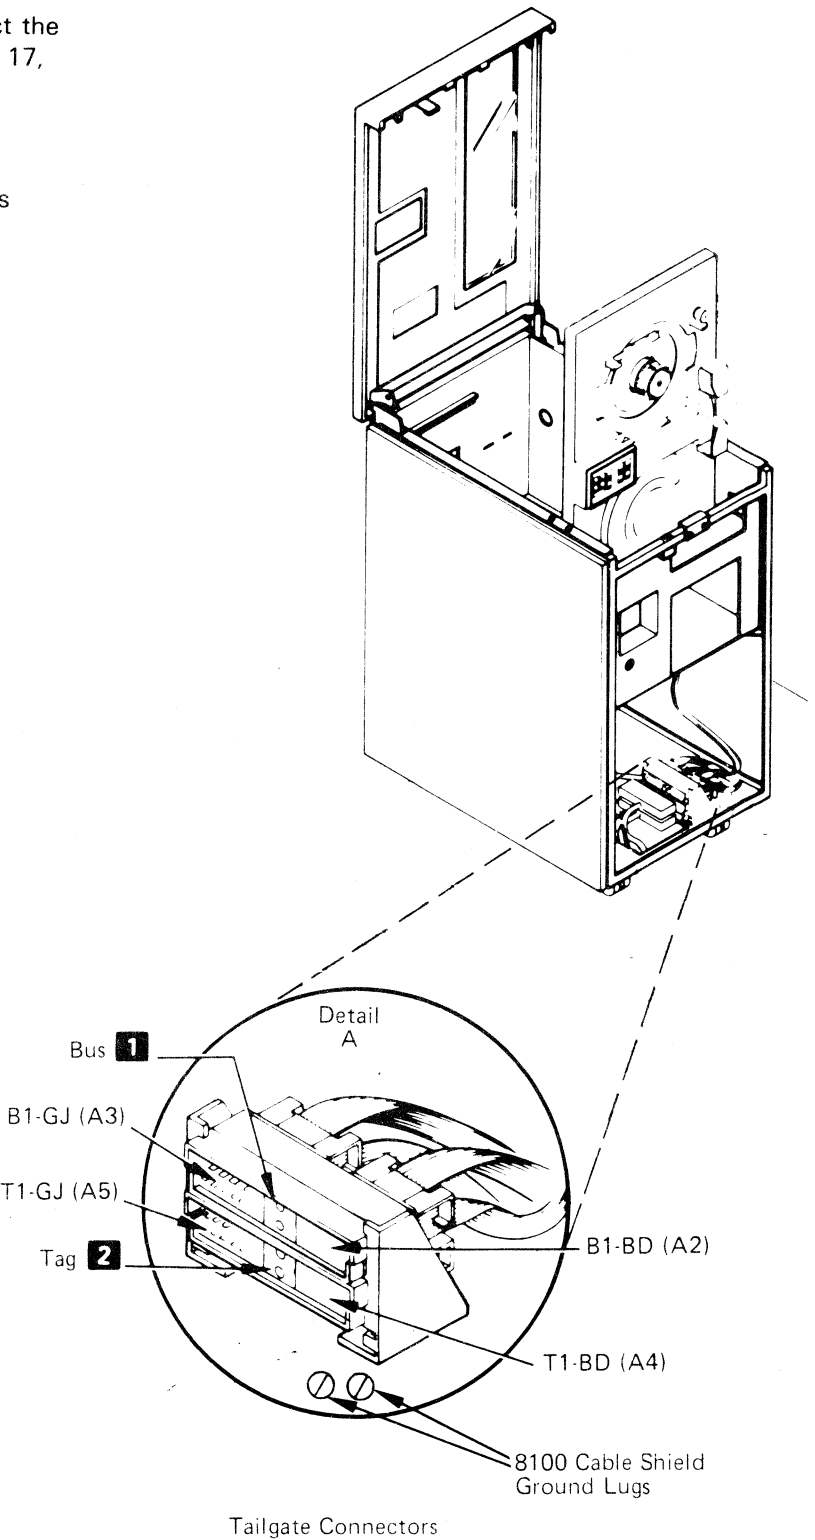

Figure 17. Host System to 8809 Mod 1A Cables
- 58. Refer to Figure 17, Detail A. Connect the light gray cable connector flanges to the 8809 tailgate connectors. Tape the cable shield lead back along the cable and ensure that it does not touch the frame. Not all cables have a cable shield. See Note 2. Connect bus cable and tag cable as shown in Figure 17, Detail A.
- a. For Model 1A on 8100 systems, connect the bus and tag cables as shown in Figure 17, Detail A. Connect the light gray cable connector flanges to the 8809 tailgate connectors.
- b. Connect the shield to the ground lugs as shown in Figure 17, Detail A. Refer to appropriate documentation for cable connections at host system.